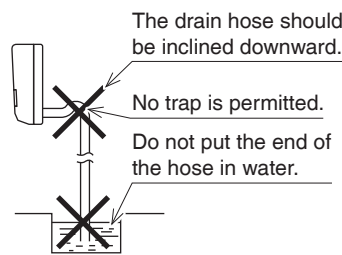

Fig. 23
- 1) Connect the drain hose, as described in Fig. 23.